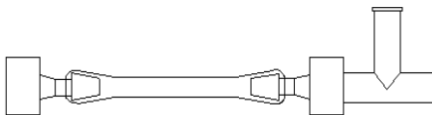

Figure 47. Manifold Plumbing Piece
- 2 If you have manifold pieces (shown in Figure 47) connected to your reagent lines, follow the instructions in "Moving Manifolded Modules" on page 67. Otherwise, follow the instructions in "Move Modules with Individual Reagent Lines" on page 68.